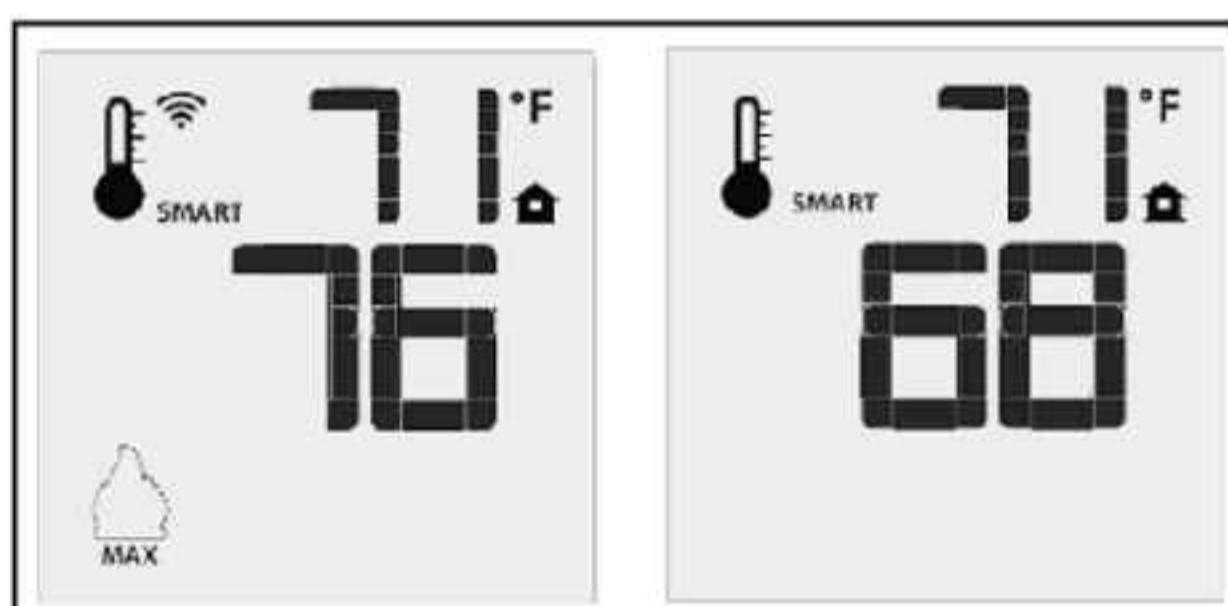

Figure 110: Remote Control's Smart Flame Function.
The Proflame GTMFS has six (6) flame levels. With the system on, and the flame level at the maximum in the appliance, pressing the Down Arrow Key once will reduce the flame height by one step until the flame is turned off. The Up Arrow Key will increase the flame height each time it is pressed. If the Up Arrow Key is pressed while the system is on but the flame is off, the flame will come on in the high position (refer to Figure 110). A single "beep" will confirm reception of the command.
Transmitter: The life span of the remote control batteries depends on various factors: quality of the batteries used, the number of ignitions of the appliance, the number of changes to the room thermostat set point, etc. When the Transmitter batteries are low, a Battery Icon will appear on the LCD display of the Transmitter (see Figure 110) before all battery power is lost. When the batteries are replaced this Icon will disappear.